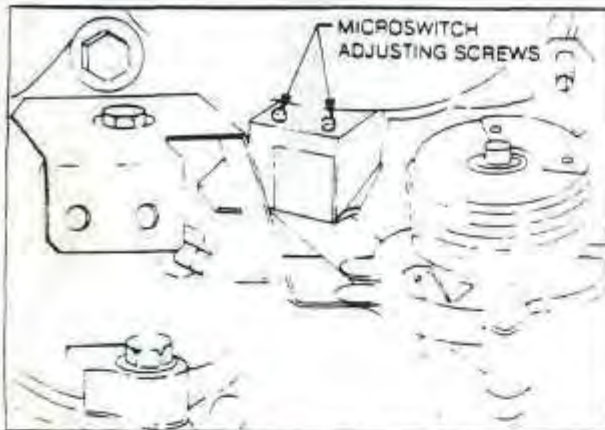

Fig. 12 MICROSWITCH ADJUSTMENT
2. Loosen the microswitch attaching screws and position the switch so that it is activated in the full throttle position. *Fig. 12*